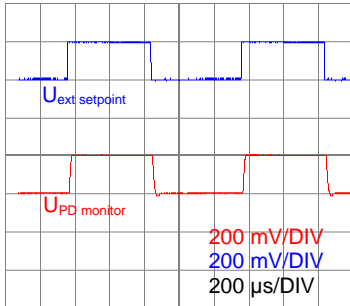

fig. 6.6.1
Turn the “setpoint” trim-pot to the middle position. Choose the “regulator switch” to the upper position (“reg”). Turn the trim-pot “P”(5), “I”(7) to appr. 30% and “D” (15) to the left stop. Increase the loop gain by turning trim-pot “gain”. Watch the voltage at the “PDmonitor“-jack. (fig.6.6.1)